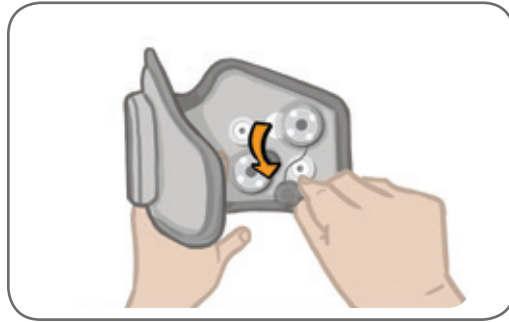

Figure 8-8: Removing the Used Electrode Bases
3. Disconnect the electrode base snaps from the plug holes. See Figure 8-8.
4. Remove the used electrode bases from FS Cuff. See Figure 8-8.